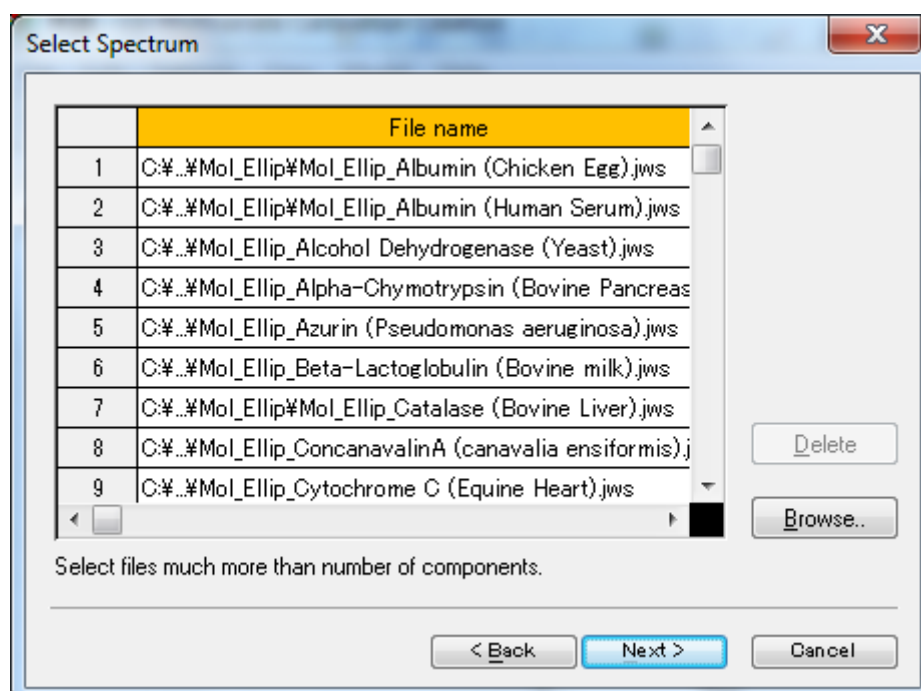

Figure 3.4 [Select Spectrum] dialog box
- <Next>                                Displays the dialog box in Fig. 3.4.
[ A dd...]	Adds new data to the data sheet. Clicking this command opens the dialog box in Fig. 3.4. Click the < O pen> button after selecting the files to add.
[ C hange...]	Changes the data that is currently selected. Click this command after clicking the data number to change. The dialog box in Fig. 3.4 is displayed. Select the file to change and then click the < O pen> button.